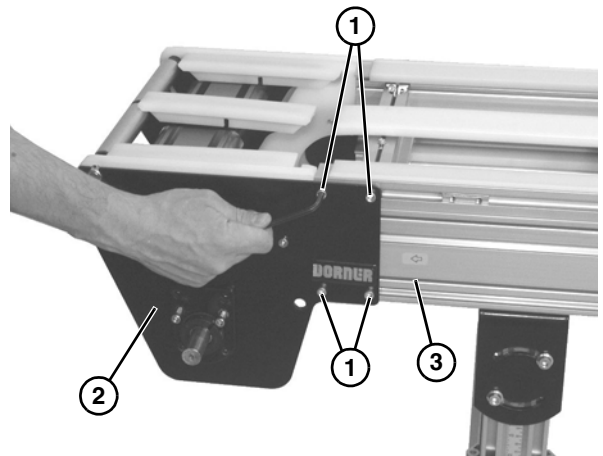

Figure 33
4. Loosen the four socket head screws (Figure 33, item 1). Repeat on opposite side.
5. Remove the drive tail assembly (Figure 33, item 2) from the frame (Figure 33, item 3).